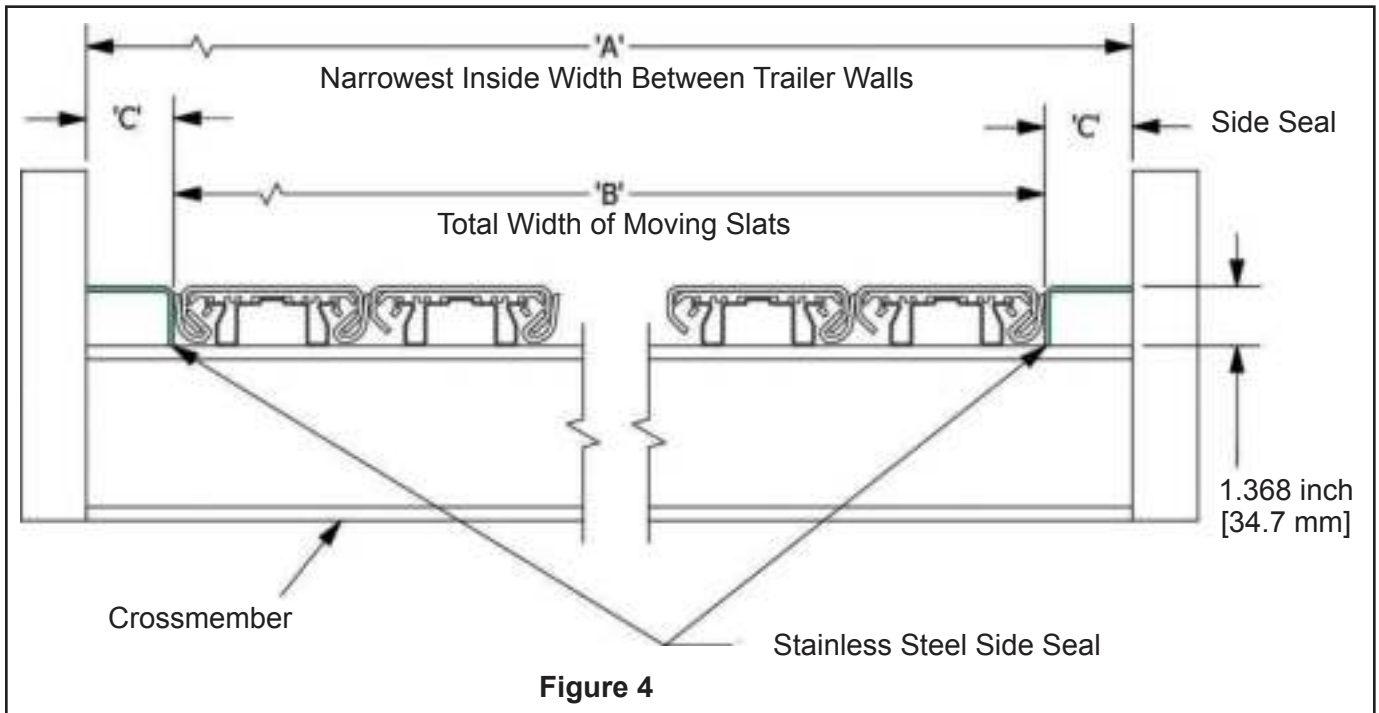

Figure 4
1. Use the formula below to determine the quantity of floor slats needed and the width of the side seals required. (See Figure 4)